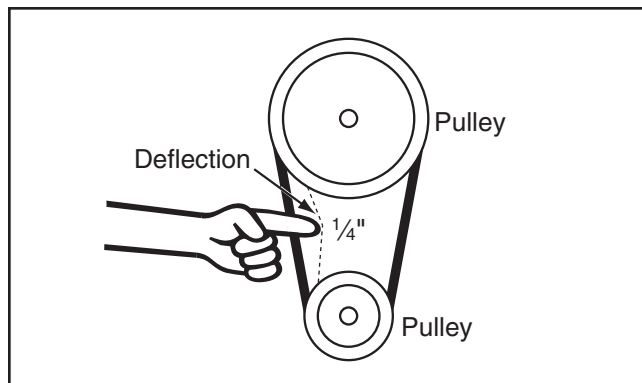

Figure 18. Checking for proper belt tension.
9. Adjust belt tension by applying downward pressure on motor, until there is approximately $\frac{1}{4}$ " deflection when belt is pushed with moderate force, as shown in **Figure 18**.